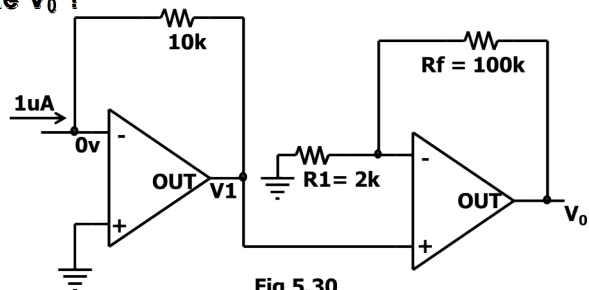

Fig 5.30
**Problem 12: In the circuit in fig 5.30, what is the  $V_o$  ?**